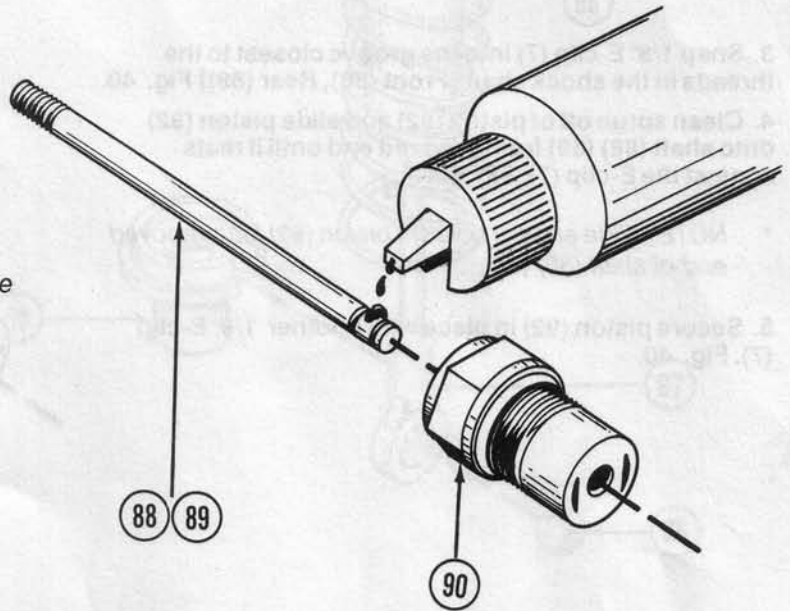

FIG. 38
1. Place a drop of oil on grooved end of shock shaft [Front (88), Rear (89)] and slide cartridge (90), hex end first, down shock shaft towards the threads. Fig. 38.
* NOTE: Be sure the external o-ring (91) is in the groove on the cartridge (90).